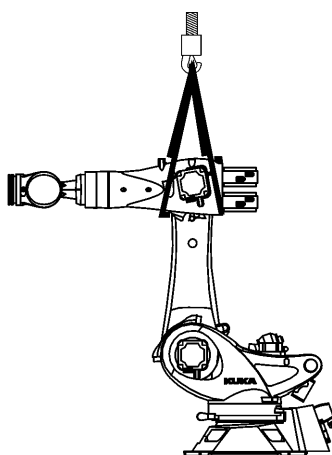

Fig. 11-28: Securing the link arm
6. Secure link arm using a rope sling and crane (>>> Fig. 11-28).